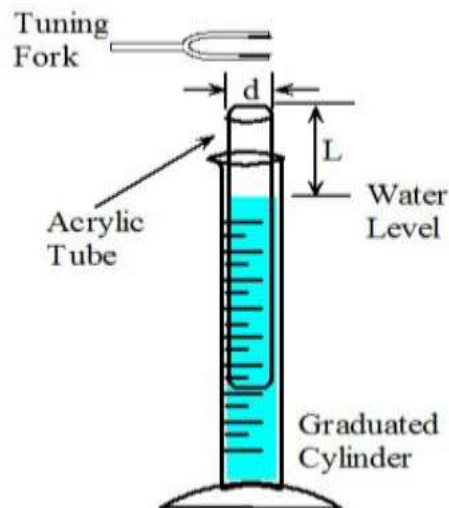

Figure 1. Experimental set-up
(1) Strike a tuning fork against a soft material such as a rubber block. Hold the vibrating fork near the open end of the resonant tube and listen to the sound intensity as the water level is raised or lowered. When a position of maximum sound intensity is found, record the position of the water level (L) on the tube scale or with a meter stick (figure 1). The scale reads from zero at the top, so this directly gives the length of the resonant air column. There may be 2, 3, or more resonant lengths for each tuning fork. Find them all.